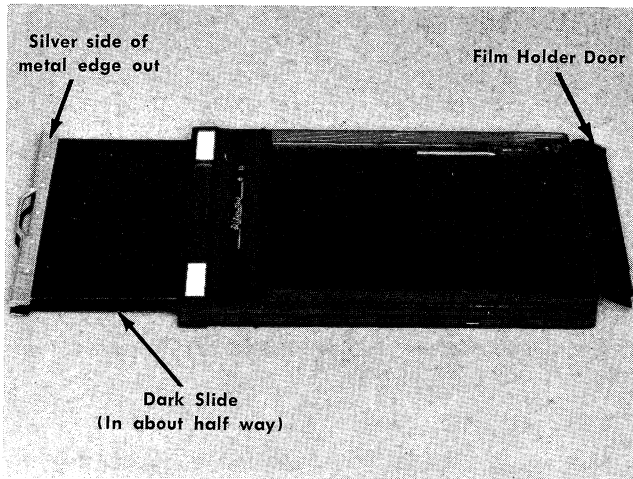

Fig. 2-7. A film holder ready for loading in the darkroom.
**Loading the Film Holders.** 4×5 cut film in a variety of types is available at most photographic suppliers. Before using the film, it must be first installed in a film holder in a darkroom. To prepare the film holders, put the dark slides about half way in with the silver side of the metal edges out. This position of the dark slide will be used to indicate that film in the holder is not exposed. When the film is exposed, the dark slide should be turned over so the dark side of the metal edge is out (see Fig. 2-7).